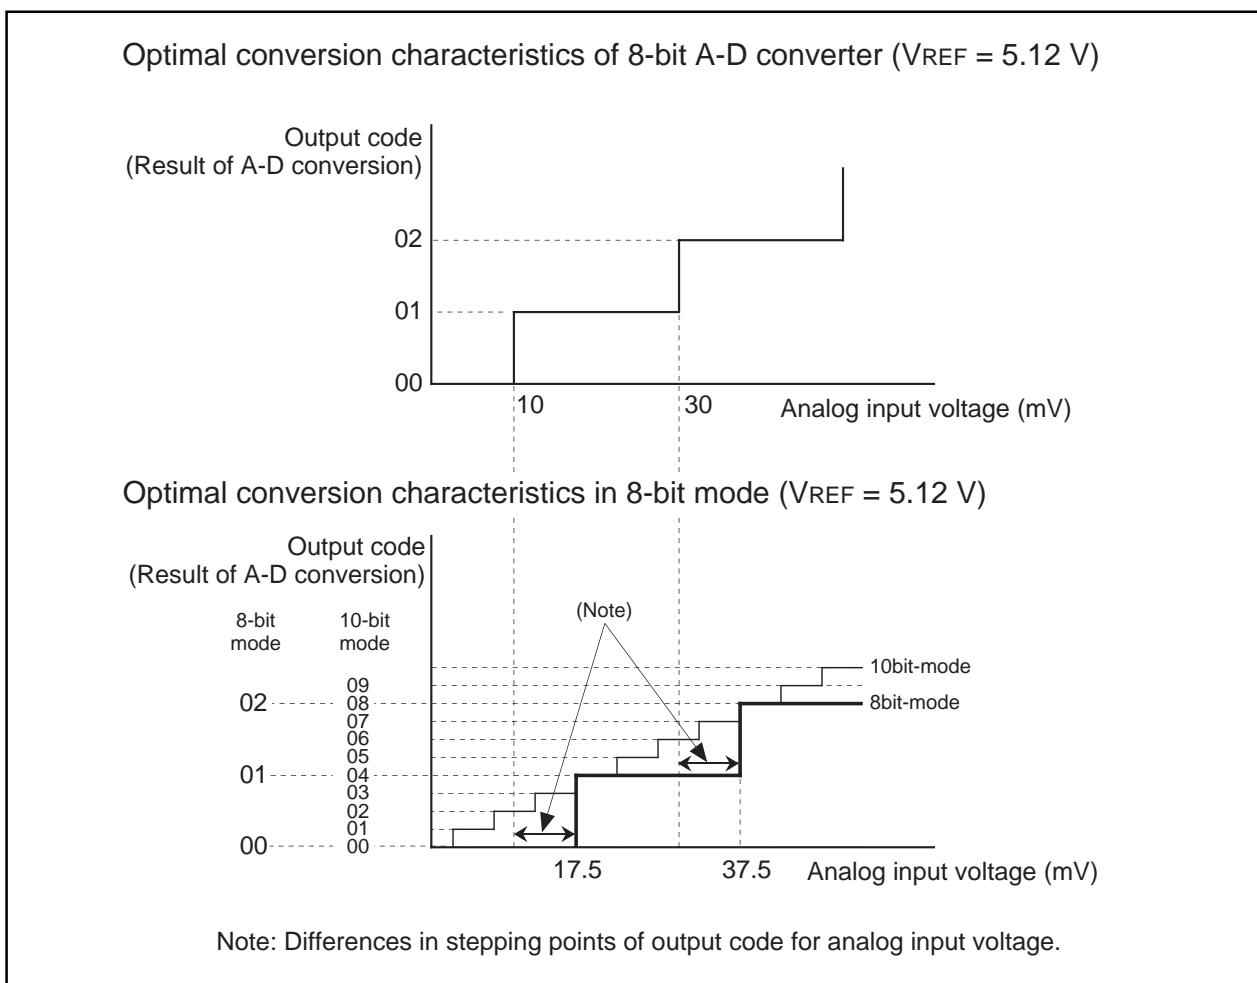

Figure 2.8.18. The level conversion characteristics of 8-bit mode and 8-bit A-D converter
- (1) In 8-bit mode, 8 higher-order bits of the 10-bit successive comparison register becomes A-D conversion result. Hence, if compared to a result obtained by using an 8-bit A-D converter, the voltage compared is different by $3 V_{REF}/2048$ (see what are underscored in Table 2.8.9), and differences in stepping points of output codes occur as shown in Figure 2.8.18.